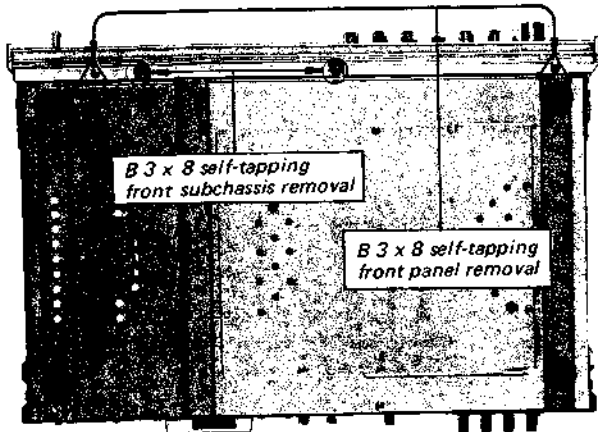

Fig. 2-1 Bottom view
2. Remove the two screws from the bottom and one screw at both sides as shown in Fig. 2-1 and 2-2. This frees front panel.
- Remove the two screws from front bottom of the chassis shown in Fig. 2-1.